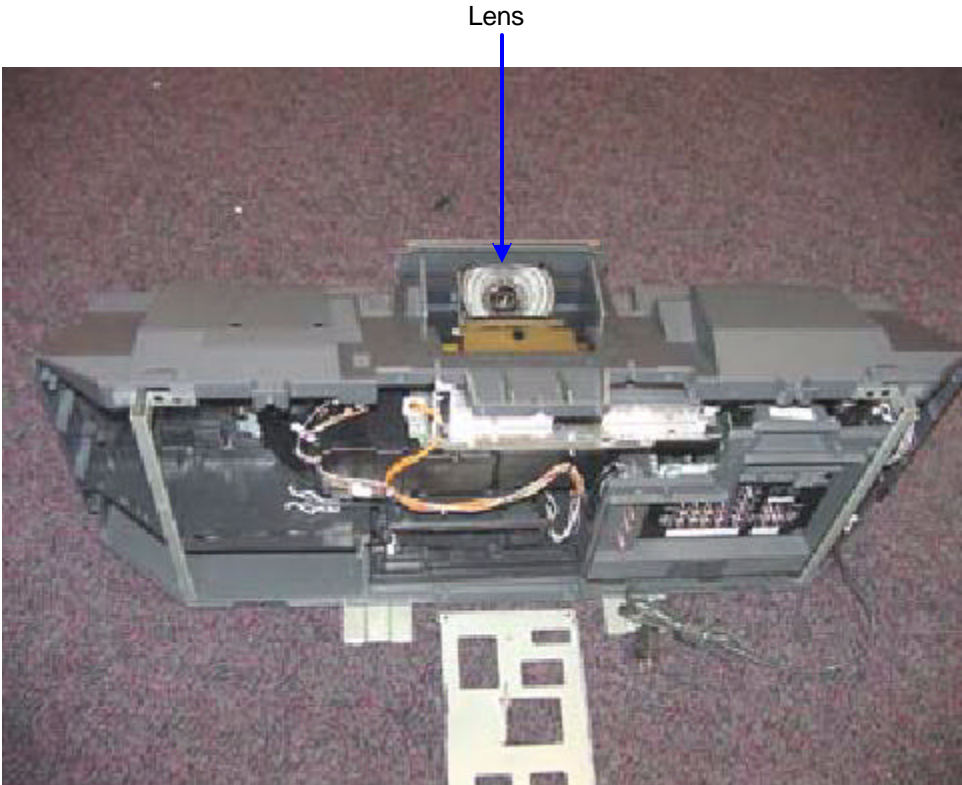

FIGURE 23-4 - BOTTOM TV BASE
g. With the help of another person, lift the top assembly off. Do not leave the glass mirror in the top assembly exposed to dust and children. Clean the lens with a soft cloth (Figure 23-4) before installing the top assembly.